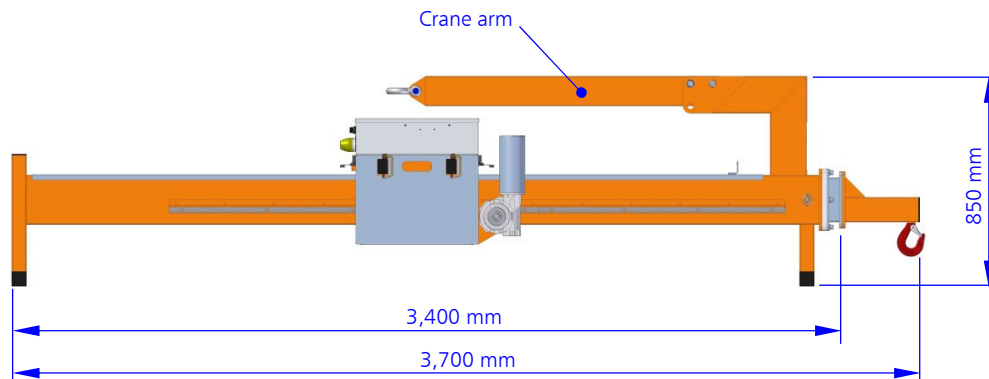

Fig. 4: Transport and storage of the counterweight balancer
2. Move the cage to the position shown in figure 4 (see also point 3.2 "Operating the counterweight balancer").
4. Swivel the crane arm by 90° and fix its new position by mounting the previously removed locking bolt B with lynch pin type 1 (see fig. 4).